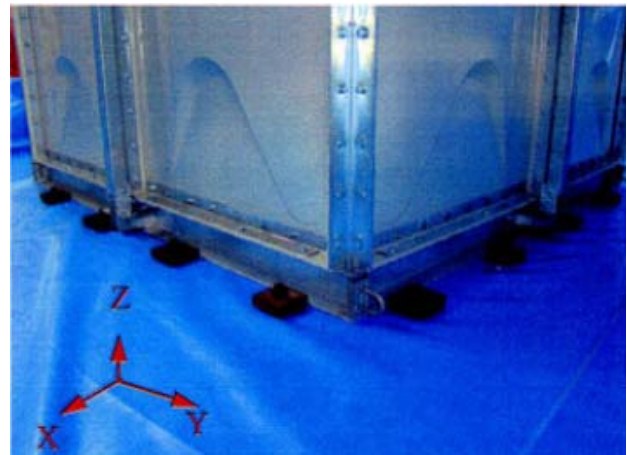

Figure 2: Foundation of the assembly type water storage tank was retained by M20 bolts.
- 2 Used M20 bolts x 16 pieces to retain four (4) sides of foundation for assembly type water storage tank to the shaking table (Figure 2).